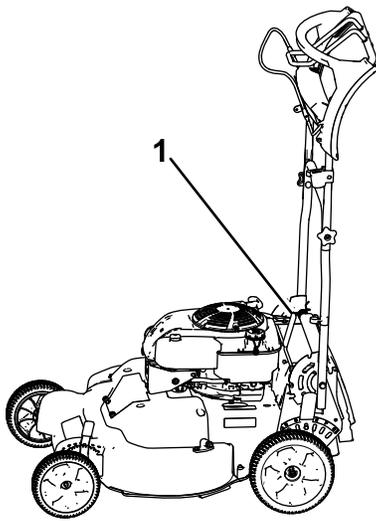

Figure 38
1. Lock the handle in the vertical position (Figure 38); refer to Adjusting the Handle Height (page 11).